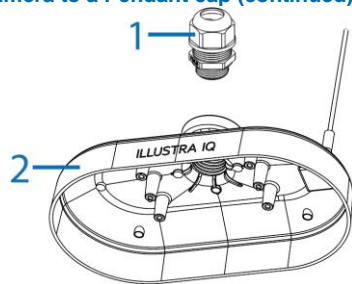

Figure 6
3. Insert the cables through waterproof connector (1) (Figure 6), through the hole onto top of the pendant cap (2) (Figure 6) and then attach the waterproof connector to the pendant cap.